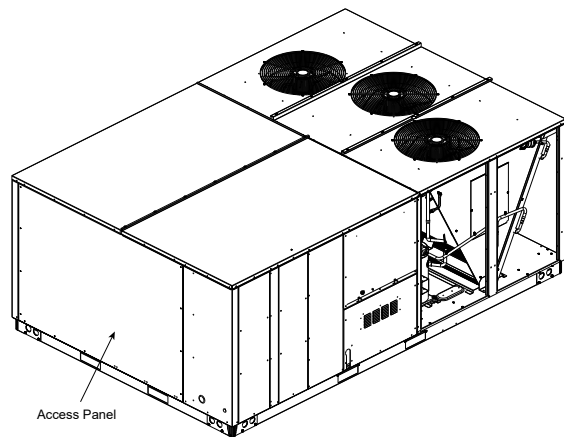

FIGURE 1 – ACCESS PANEL
2. Remove the unit access panel to allow access to the inside of the rooftop unit. See Figure 1.